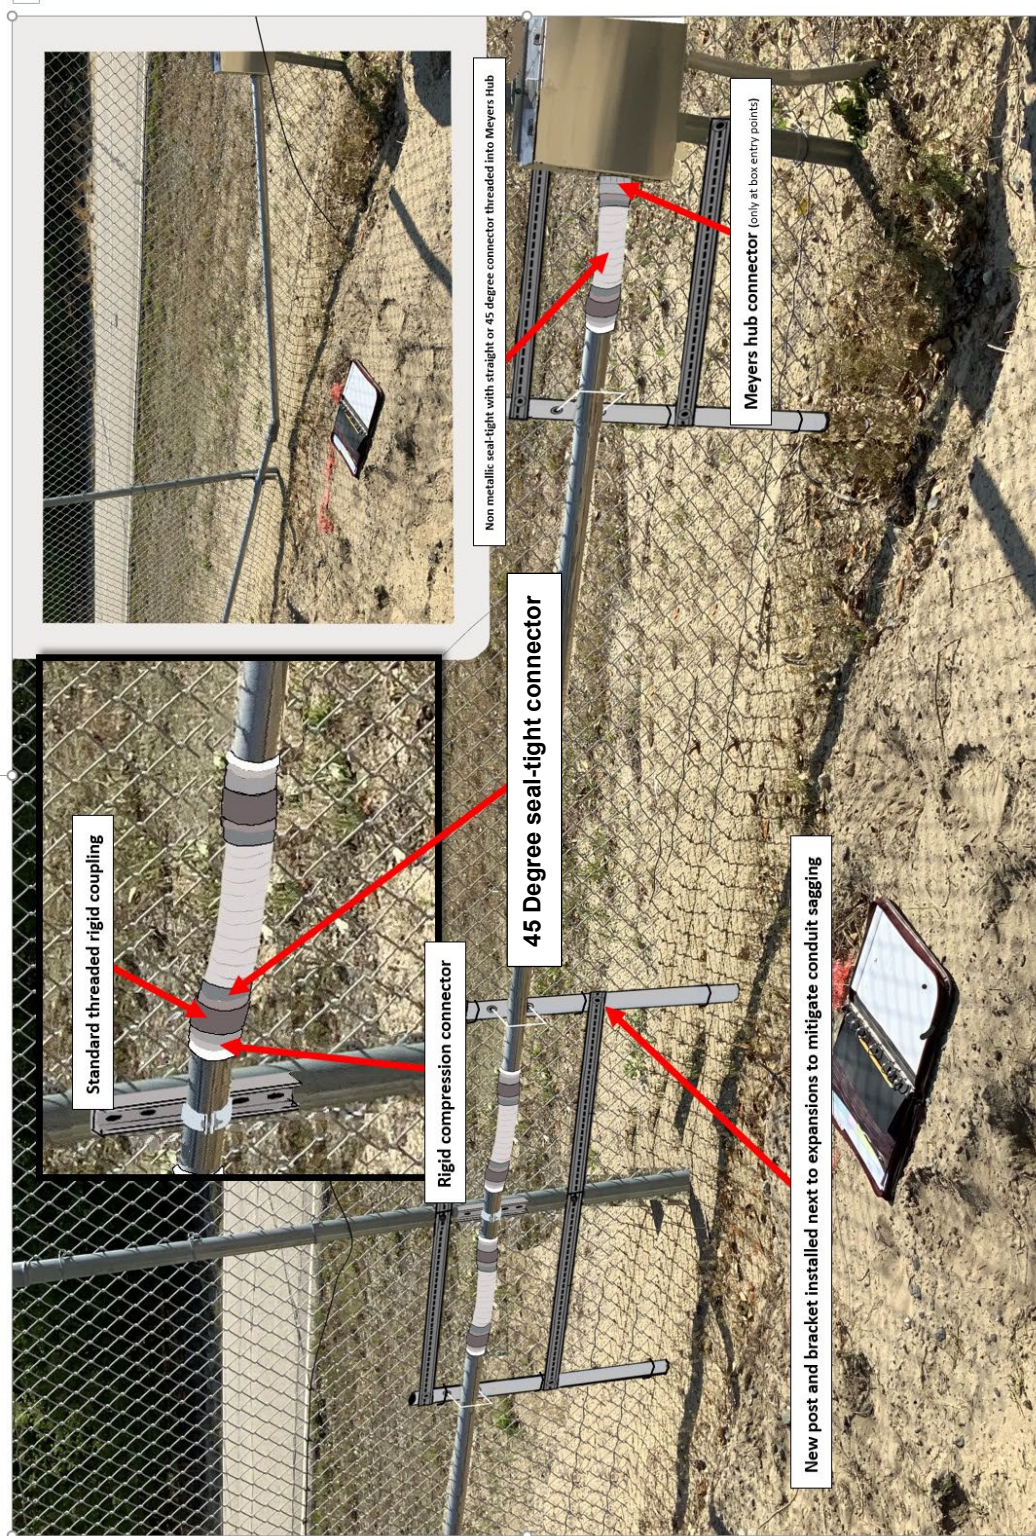

Figure 1A
- 7.11.2 Damaged rigid conduit. See Figures 1A and 1B for locations
- 7.16 Reinstall salvaged rigid conduit and install new rigid conduit. See Figures 1A and 1B for main areas in need of 2 inch conduit replacement.